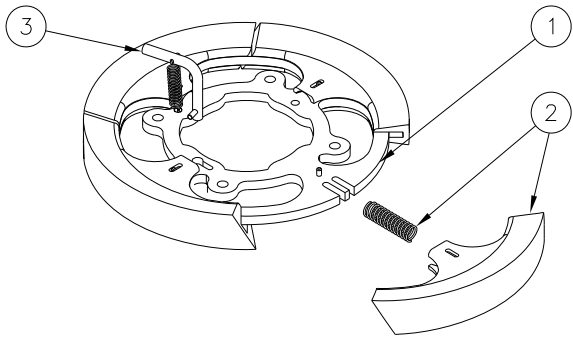

Figure 2
9. Inspect the cleaning disc blades while inside the unit. If the spacing between the edge of the blade and the inside edge of the plate is approximately 1/8" then the blades need to be replaced. See Figure 2.
- a. Inspect blades while in unit. Blade wear is indicated by pin location. See figure 2. The cleaning blades should be replaced every six months to keep the unit in proper working order.
- b. Remove retaining pin (item 3) from carrier assembly.
- d. Remove cleaning disc (Figure 2) assembly by pulling it up and clear of the carrier.
Table for Figure 2